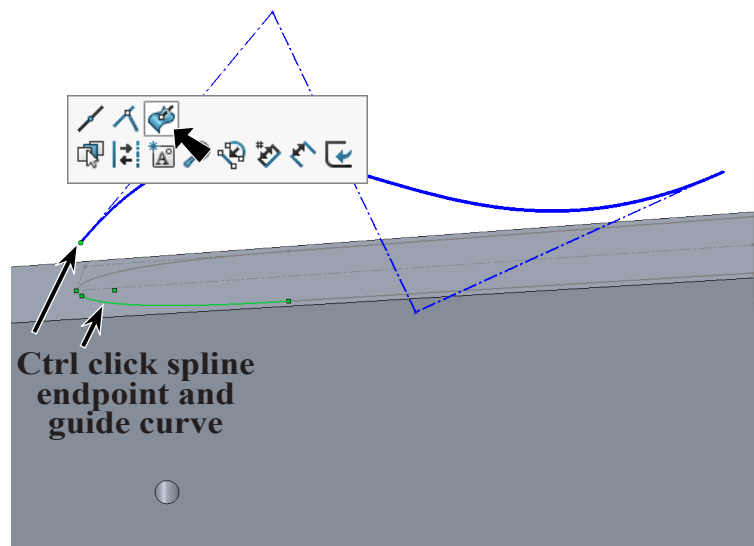

Fig. 50
Step 6. Use **Down arrow** key one time to slightly rotate view, **Fig. 50**.
Step 7. **Ctrl click left endpoint of spline and guide curve sketch** to select both. Release Ctrl key and click **Make Pierce**  on the context toolbar, **Fig. 50**.